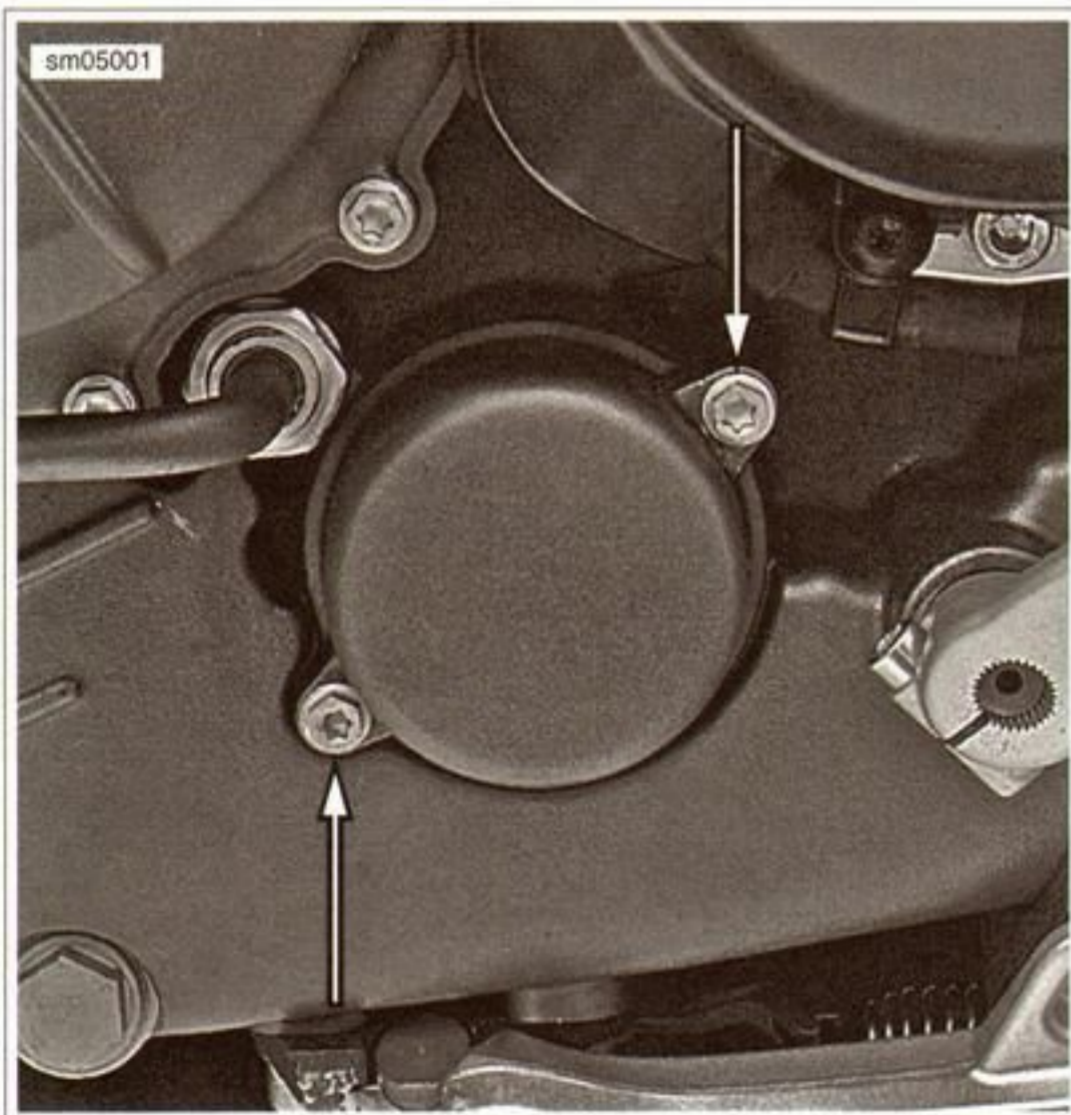

Figure 3-135. Oil Filter Cover Fasteners
1. See Figure 3-135. Remove the two fasteners to remove the oil filter cover.